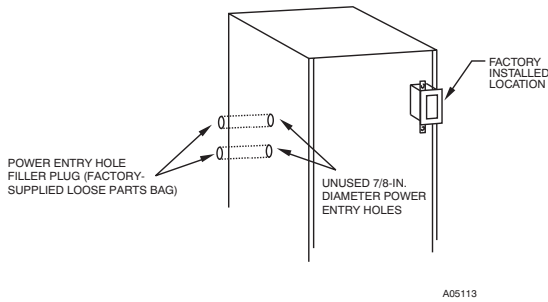

Fig. 31 - Factory Installed J-Box Location
Install power entry hole filler plugs (factory-supplied in loose parts bag) in unused power entry holes. (See Fig. 31.)
3. Install power entry hole filler plugs (factory-supplied loose parts bag) in unused power entry holes. (See Fig. 31.)